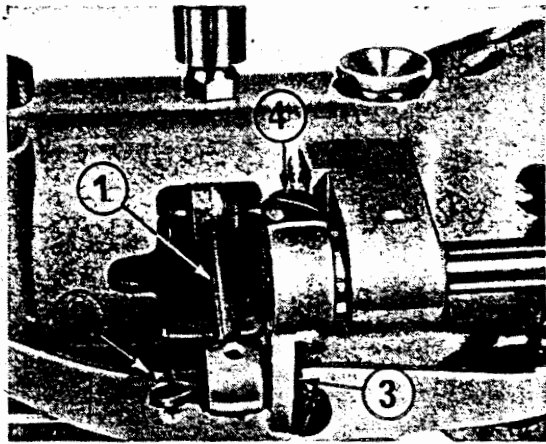

Fig. 14
The range of the upper feed can be adjusted by loosening the hinge nut (Fig. 14 ②) of the upper feed arm (Fig. 14 ①); to increase the feed amount, move the upper feed rod connecting shaft (Fig. 14 ③) toward “up” and to decrease the feed amount, move it toward “down” and tighten the shaft.
To change the alternate feed amount, when the moving range of the presser foot is to be increased or decreased, or when reverse is required, slightly loosen the upper feed arm set screw (Fig. 14 ④), bring the upper feed foot either to “up” or “down” and after setting it to the desired position, tighten the upper feed arm set screw.